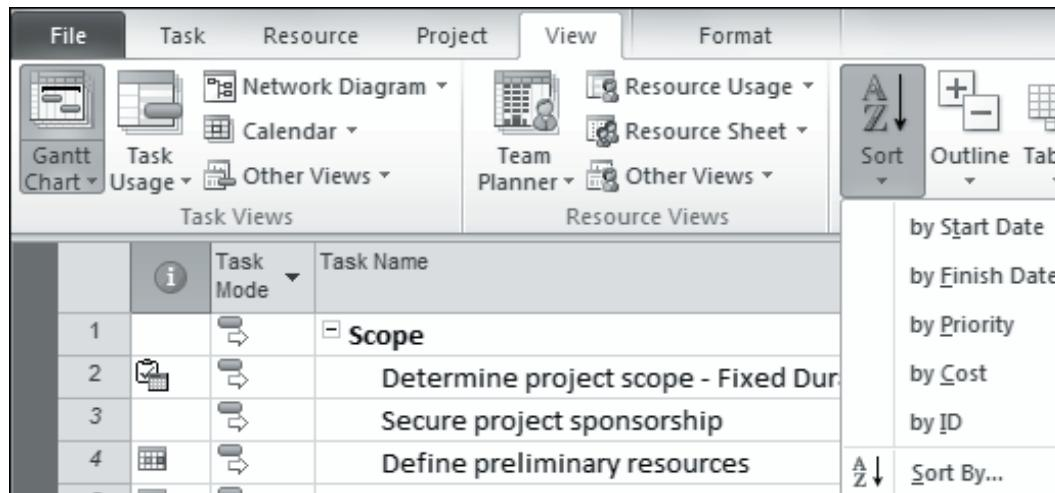

Figure 9.10: Sorting by Preset Project Details
1. On the **View** tab of the **Ribbon**, click **Sort** and then choose an option from the submenu, such as **by Start Date** or **by Cost** as shown in figure 9.10.